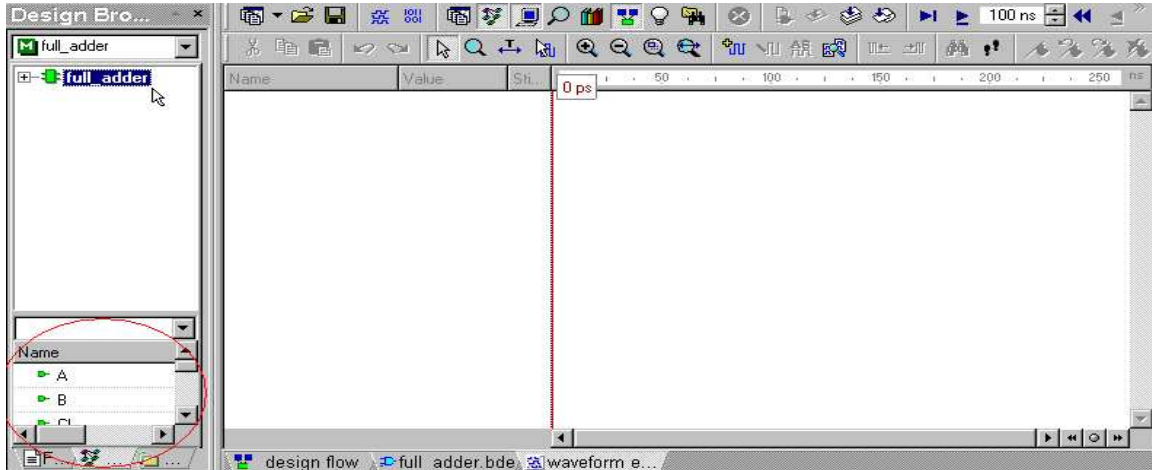

Figure 32
7. Click the file name in the top window in the Design Browser under the Structures tab. Notice in Figure 32 how the signals and wires (Nets) appear in the bottom window of the Design Browser (circled in red).